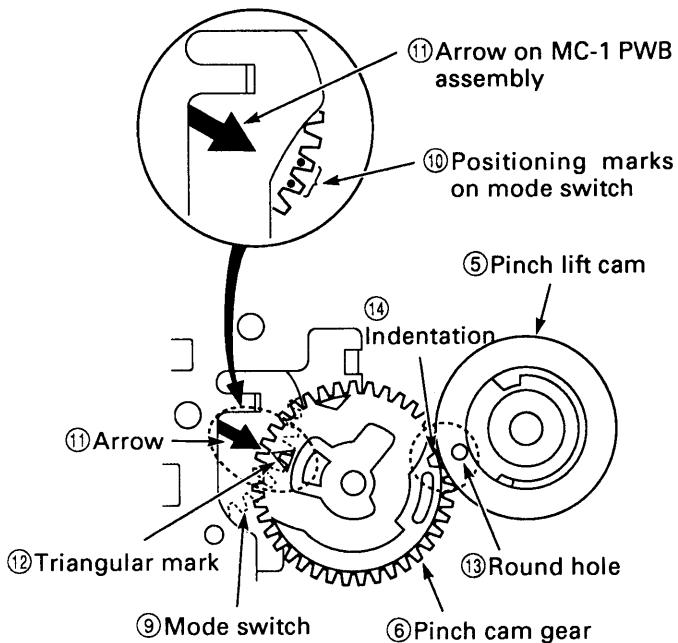

Fig.3-9-3
1. Apply grease (VHJ-0100) around the shaft⑦, all over the teeth⑧ of the pinch cam gear⑥, all over the teeth of the pinch lift cam⑤, all over the cam grooves⑨, and all over the "V Part⑩" of the opener mounting③. Apply grease (VHJ-0101) to the outside of the shaft⑧ and all over the top cam⑪ of the pinch cam gear⑥.
2. Check that the positioning mark⑫ on the mode switch⑨ is aligned with the arrow⑬ on the MC-1 PWB assembly, as shown in Fig.3-9-3. Then align the triangular mark⑭ on the pinch cam gear⑥ with the arrow⑪ on the MC-1 PWB assembly. After that, align the round hole⑬ on the pinch lift cam⑤ with the indentation⑭ on the pinch cam gear⑥.